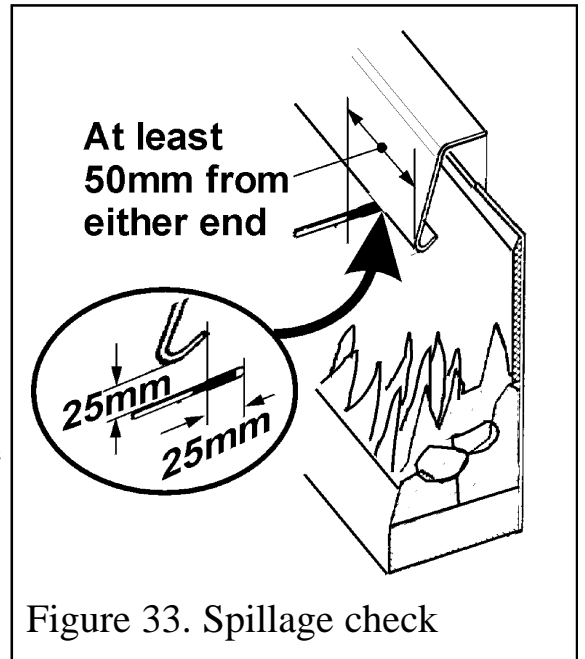

Figure 33. Spillage check
4. Place the smoke match into the appliance canopy (See figure 33).